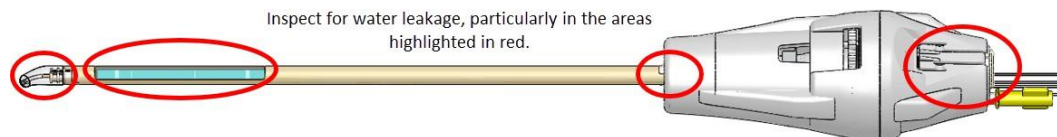

Figure 23: Areas to inspect for water leaks in the UA
7. **Urologist:** Closely inspect the UA along the length of the shaft for any water leakage, paying attention to the areas of interest shown in *Figure 23*. If you see water, the UA is defective and must not be used.